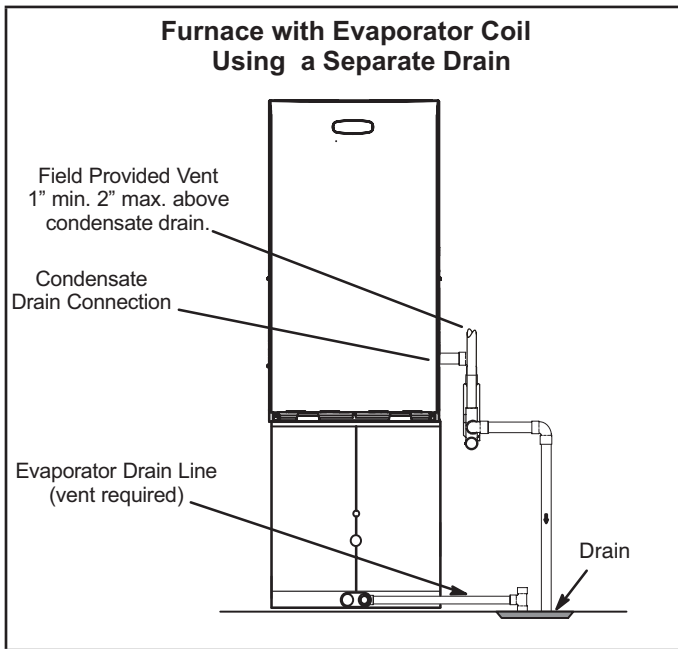
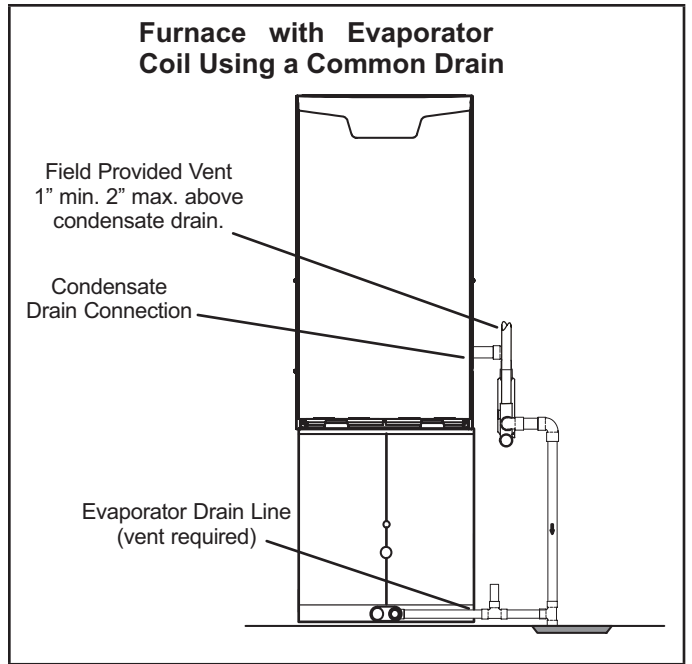

FIGURE 46
FIGURE 47
- 5 - Figure 46 shows the furnace and evaporator coil using a separate drain. If necessary, the condensate line from the furnace and evaporator coil can drain together. See figures 47 and 48. The field provided vent must be a minimum 1" to a maximum 2" length above the condensate drain outlet connection.